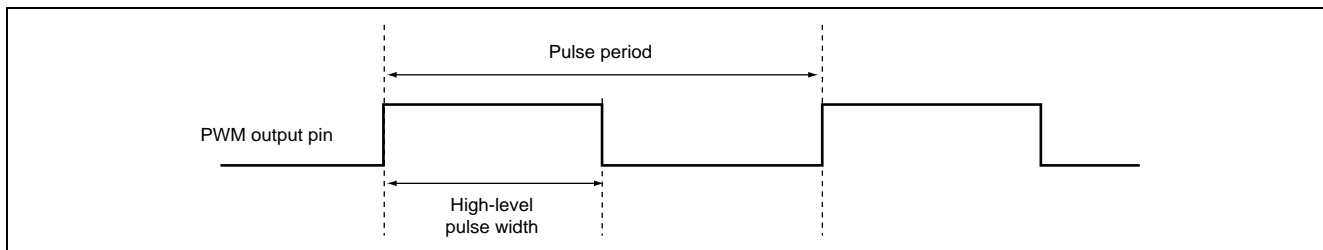

Figure 1.1 Variable Duty-Cycle Pulse Output using 14-Bit PWM Function
As shown in figure 1.1, a pulse with a variable duty cycle controlled by a 14-bit PWM function is output from the PWM output pin.
1. As shown in figure 1.1, a pulse with a variable duty cycle controlled by a 14-bit PWM function is output from the PWM output pin.